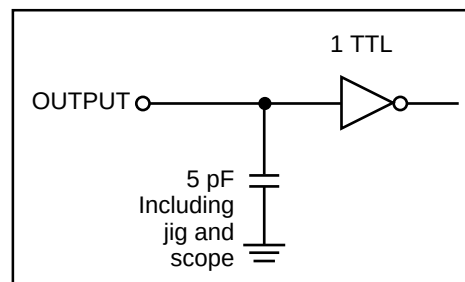

Figure 2
- Tested with the load in Figure 2. Transition is measured ± 500 mV from steady-state voltage. Not 100% tested.